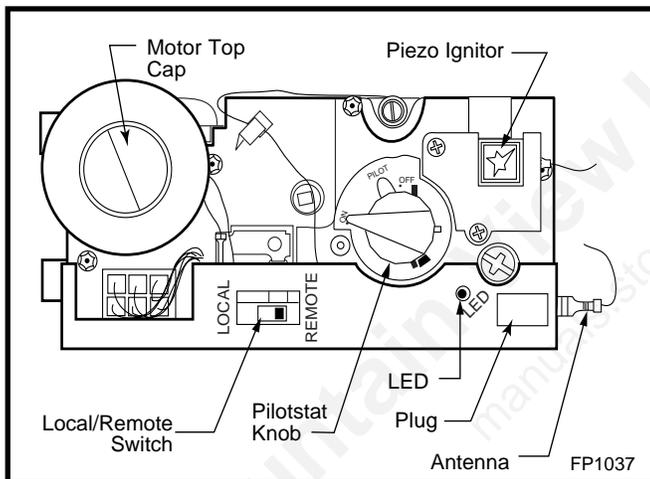

Fig. 65 Comfort control valve.
1. If the manual switch is in remote position, switch it to LOCAL. (Fig. 65)